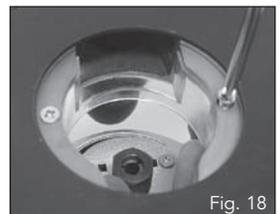

Fig. 18
2. Insert the template guide (10) into the base of the router with the raised collar facing up or out from the base plate of the router (Fig.18).
3. You will need to hold the dust extraction shroud in it's position with your other hand prior to screwing the template guide (10) into position.